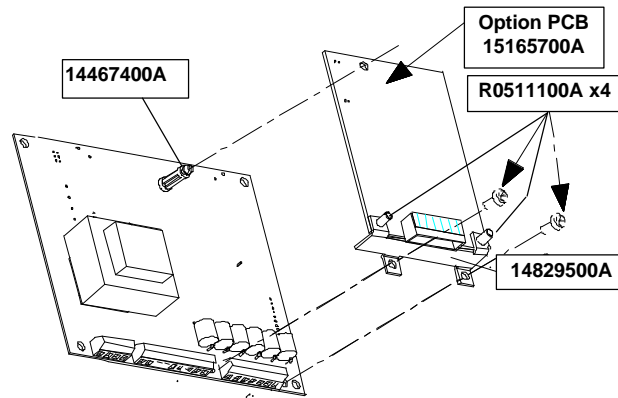

Figure 8-2 Mounting Modbus Plus Option PCB in Panel Mount Enclosure
4. Attach the mounting bracket (14829500A) to the Modbus Plus Option PCB (15165700A) with 2 screws (R0511100A). See Figure 8-2.